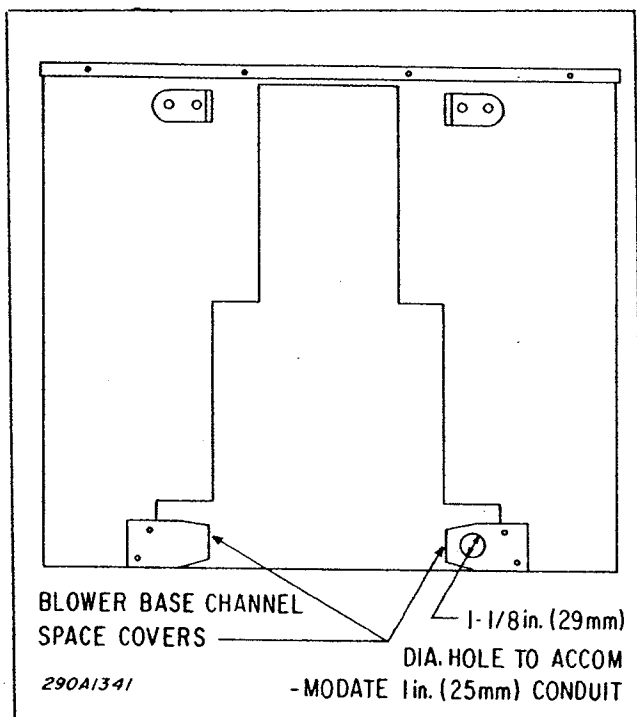

Figure 3-3. Blower Housing Detail.
(b) See figure 3-3. Remove both blower base channel space covers from the rear of the blower housing.
2. Drill or punch a 7/8" (22mm) hole in one of the blower base channel space covers, as indicated in figure 3-3.